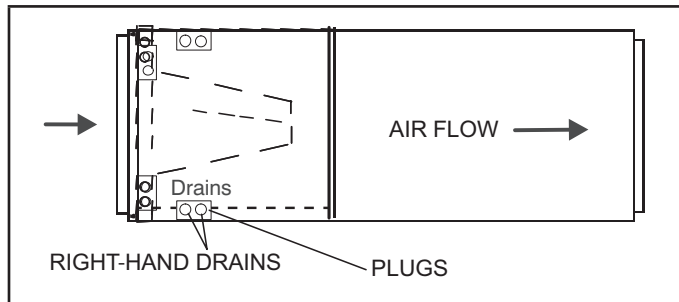

FIGURE 6. Right-Hand Discharge Configuration
- 4 - The horizontal configuration is shown in figure 6.
NOTE - Horizontal runs must have an anti-siphon air vent (standpipe) installed ahead of the horizontal run. See figure 6. An extremely long horizontal run may require an oversized drain line to eliminate air traps.